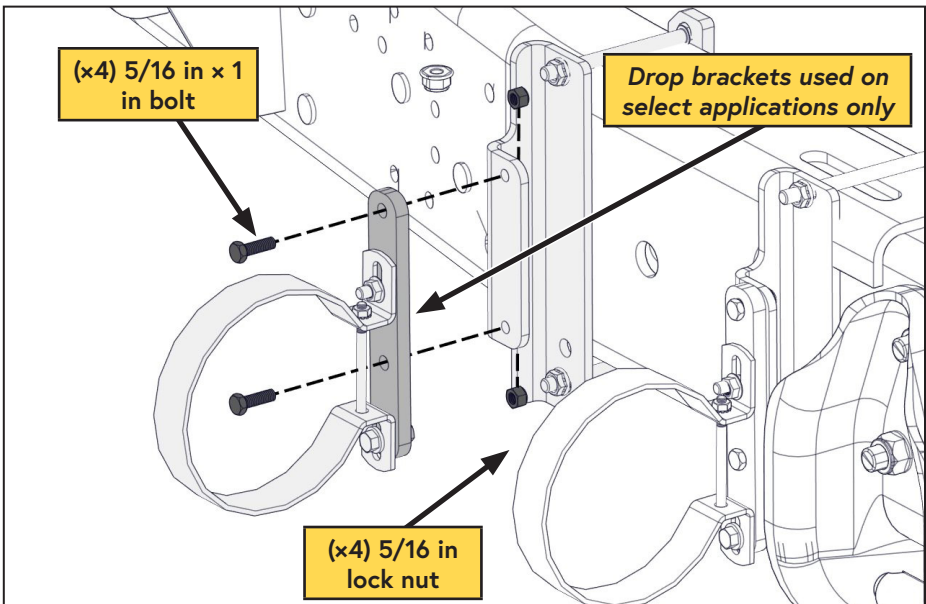

Figure 49 — Install AOST
- ☐ Mount the tank clamps onto the AOST mounts (Figure 49)